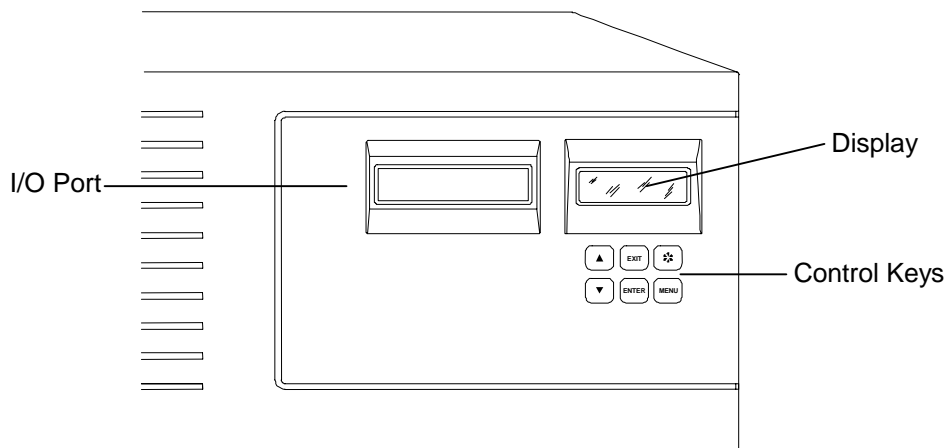
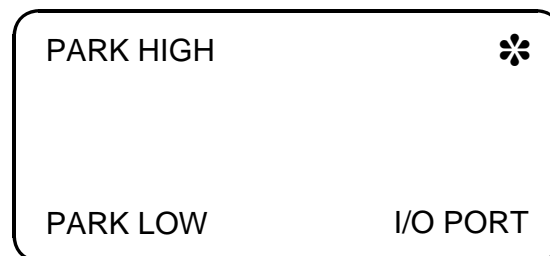
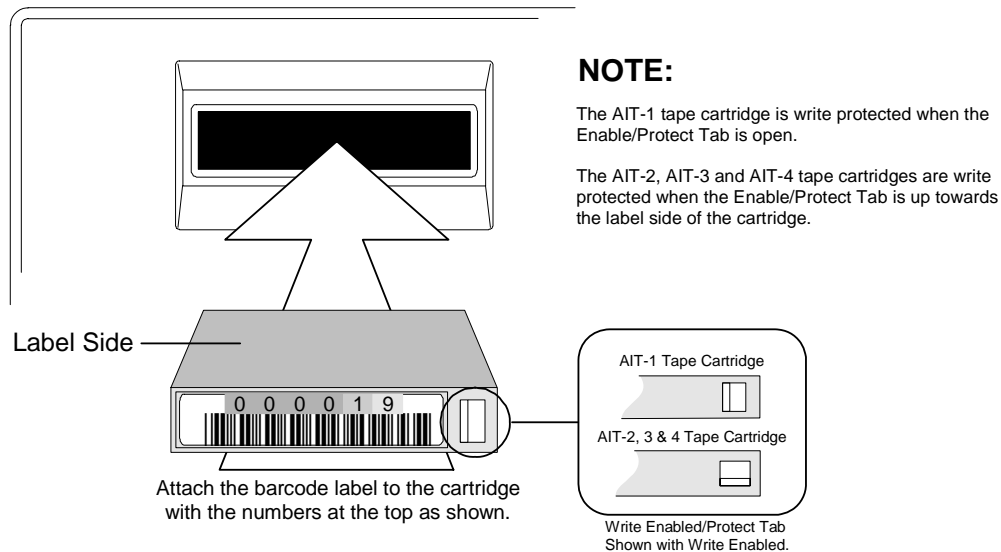

Figure 3-1 TLS Control Keys
Figure 3-2 ❁ (Daisy) Key Display
Figure 3-3 Inserting a Tape Cartridge into the I/O Port
The control keys make it possible to point to a particular item and change or edit its value, or to execute a command. The function of each control key is dependent upon the location within the menu structure. The control keys are shown in Figure 3-1.
1. While the operating display is visible (Figure 3-1), press and hold down the ❁ (Daisy) key to view the ❁ (Daisy) key display (Figure 3-2), press the MENU key to extend the I/O Port slot, then release both keys. The I/O Port door opens automatically when the I/O Port slot extends.
2. Make certain the Write Enable/Protect tab on the tape cartridge is set correctly (see Figure 3-3), then fully insert the tape cartridge into the I/O Port slot as shown (Write Enable/Protect tab facing out and on the right-hand side).
While the operating display is visible (Figure 3-1), press and hold down the * (Daisy) key to view the * (Daisy) key menu (Figure 3-3), press the ▲ (UP) or ▼ (DOWN) key to execute the PARK HIGH or PARK LOW command, then release both keys.